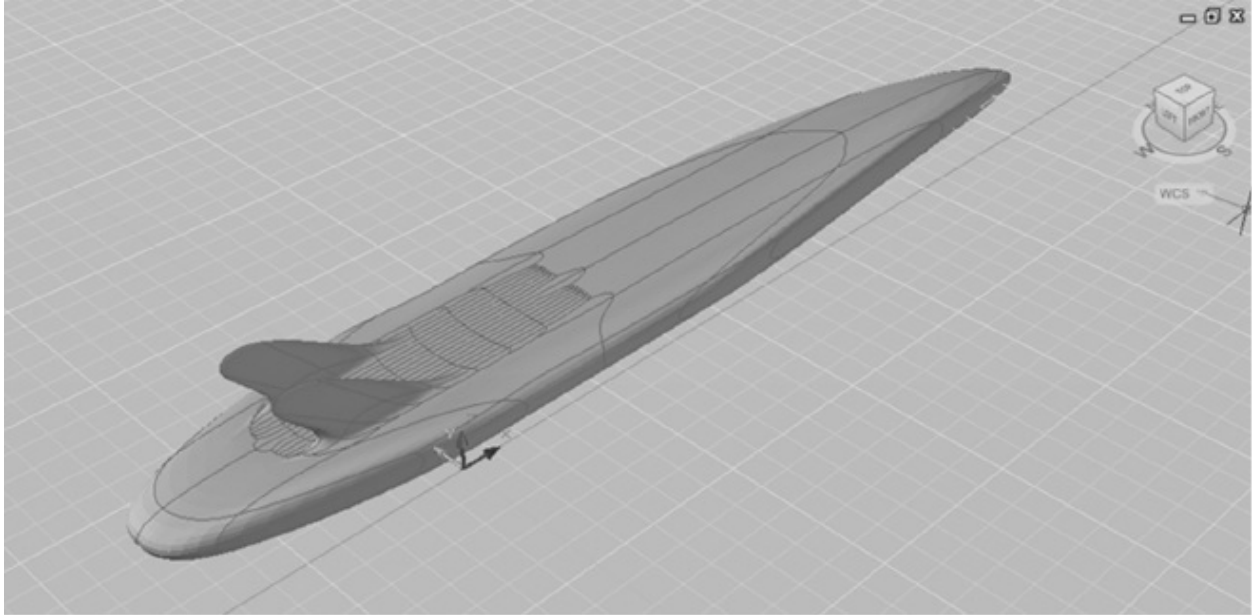

FIGURE 23.23 The finished surfboard
5. Use the Home tool on the ViewCube to get an overall view of the surfboard (see Figure 23.23).